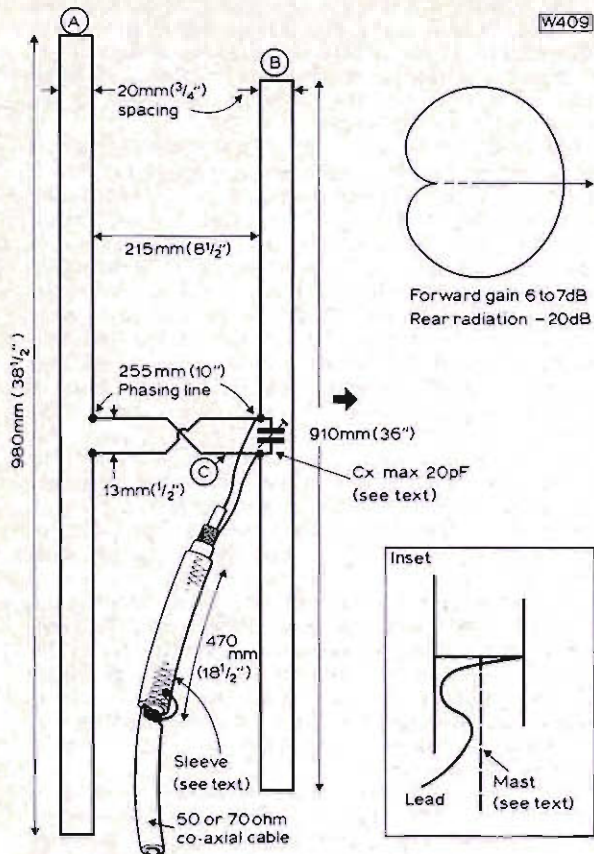
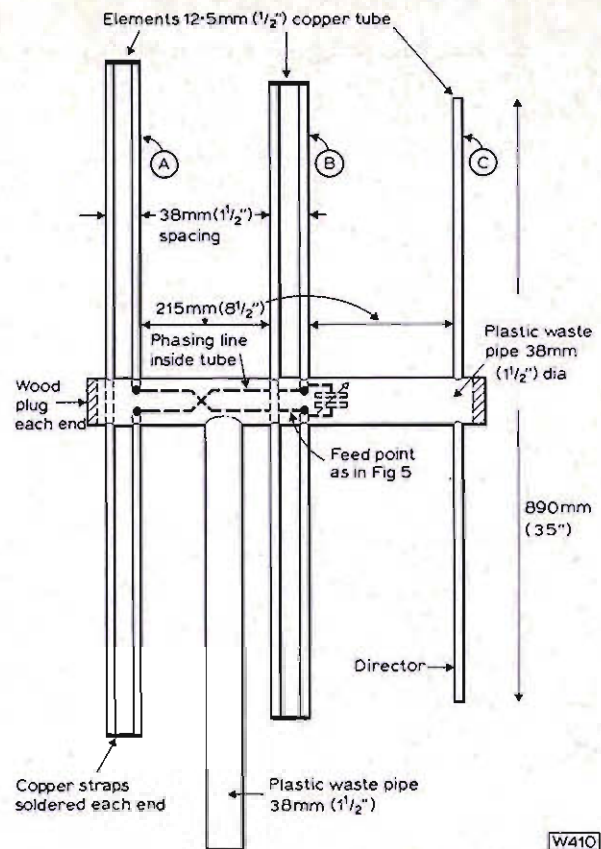

Fig. 5: Details for the construction of a ZL Special aerial for 2 metres.
Fig. 6: Construction of a three element ZL Special beam.
This beam has a broadband characteristic and properly constructed and adjusted should exhibit around a 1:1 SWR over the whole 2m band. Constructional details are shown in Fig. 5 and providing the phasing line length and the element spacing and lengths are adhered to, the materials for these may be as mentioned above. If 300Ω ribbon feeder is used the distance between conductors will of course be that of the feeder itself.
The small air-spaced 20pF variable capacitor is necessary to achieve a correct match to 50Ω co-ax cable and is adjusted for minimum SWR at 145 MHz. Not more than about 10pF of this capacitance should be necessary to achieve this. *Do not use mica or ceramic type trimmer capacitors.* It is important to curve the feed line away and down as shown in the inset in Fig. 5 when the aerial is operated vertically
and the matching capacitor should be adjusted only when the feeder has been secured. The short stub mast used to support the aerial must be of insulating material, wood or plastic tube and extended to a few inches below the bottom ends of the elements when it may be coupled to a metal mast. The gain remains the same when the aerial is used horizontally but the cardioid pattern becomes a little narrower to the sides. Note the unbalance-to-balanced co-axial connection using a $\frac{1}{4}\lambda$ sleeve which is bonded to the main co-axial braid only where shown, at point X in Fig. 5. The end near the feed point is not connected to anything. For use outdoors the feed connections and tuning capacitor must of course be protected from weather as must the elements and for this a small plastic electrical junction box could be used. The elements and supporting frame (this must be wood or plastic tube) can be given two or three coats of polyurethane varnish.
0.12λ in front of the main driven element (B in Fig. 5), increases the forward gain by slightly over 2dB thus providing a total gain of 8dB which is quite considerable for a beam measuring only about
The construction of a ZL with directors is much the same as for the basic aerial shown in Fig. 5 except that the element support is extended for mounting the directors. This must be insulating material, such as wood or plastic tube, and one suggested method of construction, particularly suitable for outdoor use, is given in Fig. 6. The main support which consists of the boom and stub mast is made of plastic pipe. The stub mast is fitted into the boom either by cutting a hole in the boom and gluing the mast in with Araldite, or by using a pipe "T" piece to make the join. The copper tube elements are fitted tightly into holes through the boom section and secured by screws through the side of the pipe. The phasing line which may be two copper wires (12 to 16 SWG) are inside the tube as is the small capacitor. To ensure that the phasing lines do not touch, they may be insulated with sleeving.